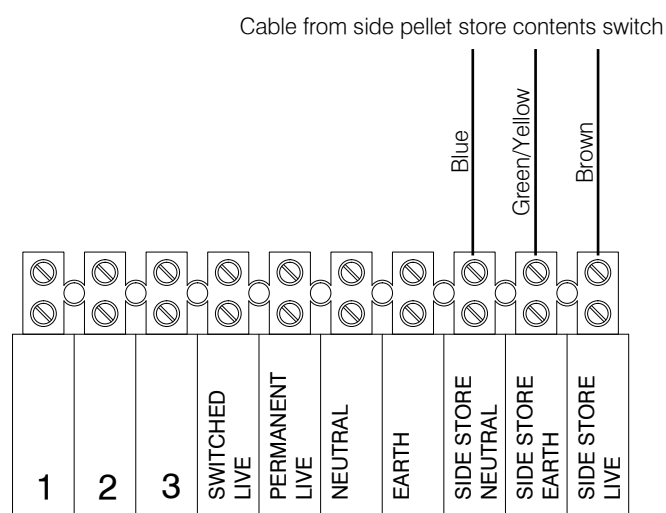

Figure 10-12: Pellet side store electrical connection diagram
4. Connect the cable to the terminal block as follows (Refer to Figure 10-12):